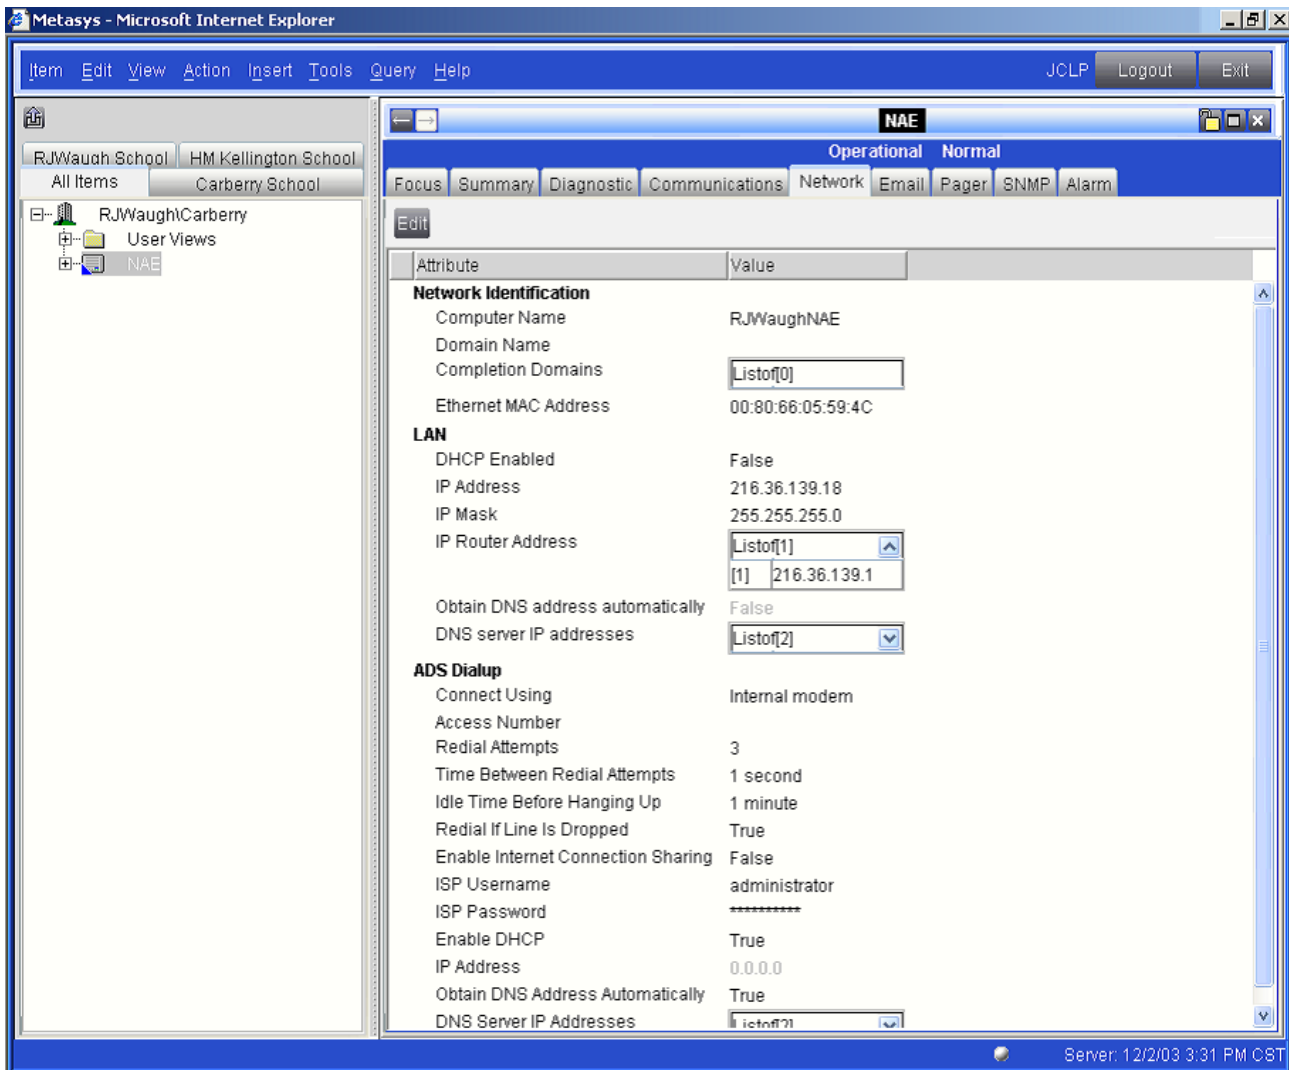

Figure 11: NAE - Networking Tab
2. Open the Networking Tab. We recommend using a static IP address (Figure 11).